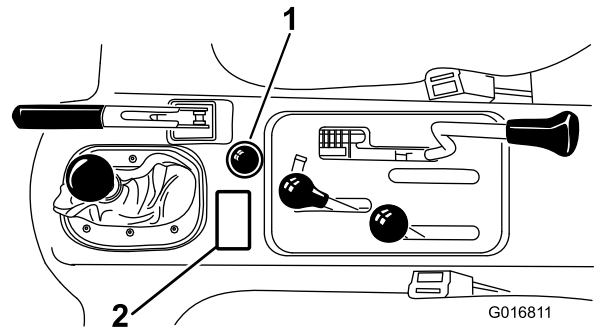

Figure 18
Affix the bubble level indicator to the top of the console cover as shown in Figure 18.
1. Affix the operation decal to the top of the console cover as shown in Figure 18.